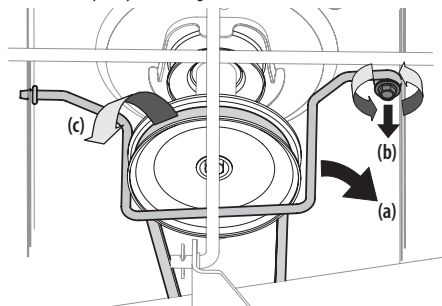

Figure 30
3. Remove the belt-keeper rod (a), from around the tractor's engine pulley, by removing the self-tapping screw (b) that secures it. See Figure 30.
4. Remove the belt (c) from around the tractor's engine pulley and idler pulley(s). See Figure 30.